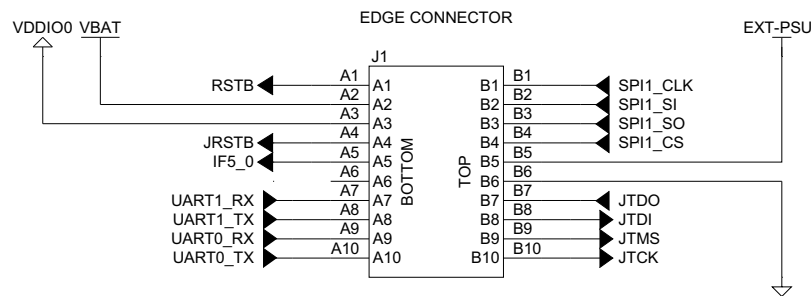

Figure 8: Edge Connection Schematic
- Edge connection schematic (Figure 8 on page 22)